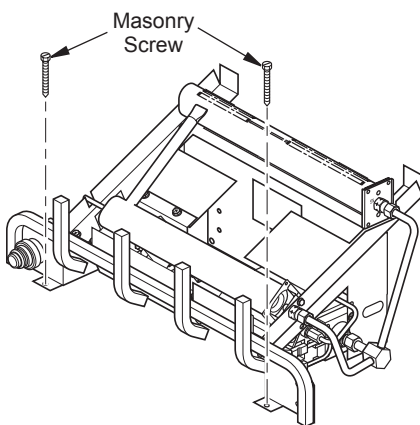

Figure 12 - Attaching Base to Fireplace Floor
3. Mark screw locations through holes in front panel of base (see Figure 12). If installing in a brick-bottom fireplace, mark screw locations in mortar joint of bricks.
6. Attach base, through holes in front panel of base, to fireplace floor using masonry screws provided in hardware package (see Figure 12).